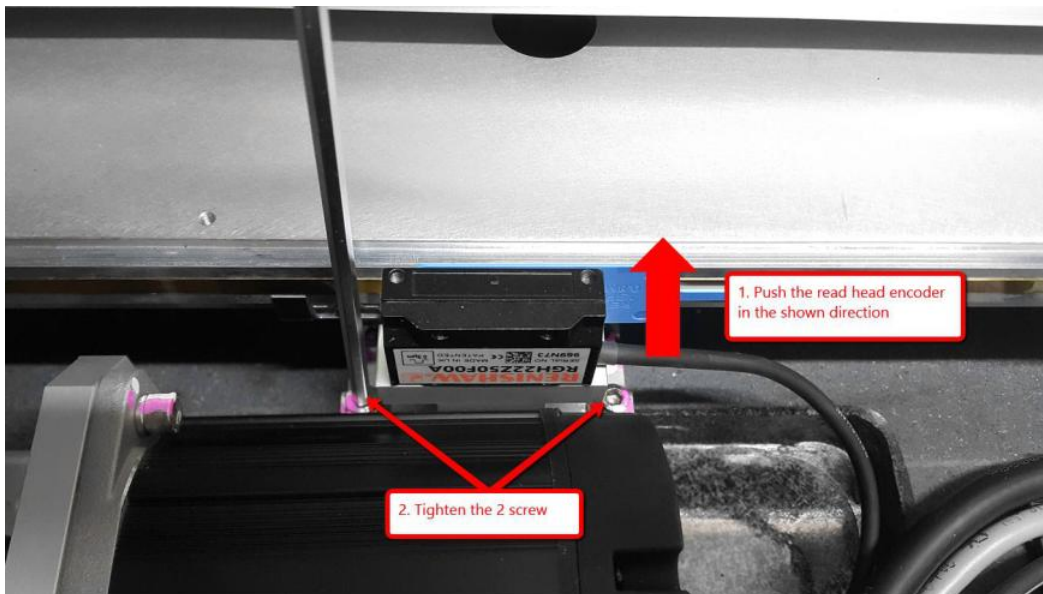

Figure 29 Read Head Encoder
24. Push Read Head Encoder towards the Read Head Spacer and tighten the 2 screws as shown in the Figure 29. Once tightened, the spacer should be able to be removed easily from the encoder.